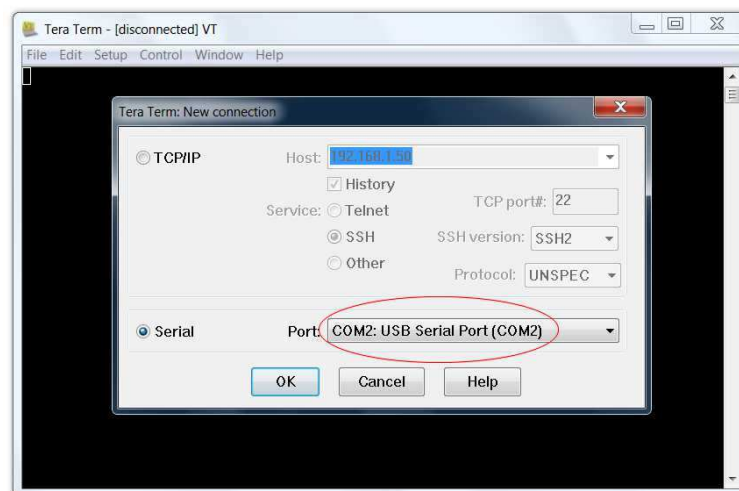

Fig.2.0.1
3. Configure Tera Term connection to this port – Fig. 2.0.1